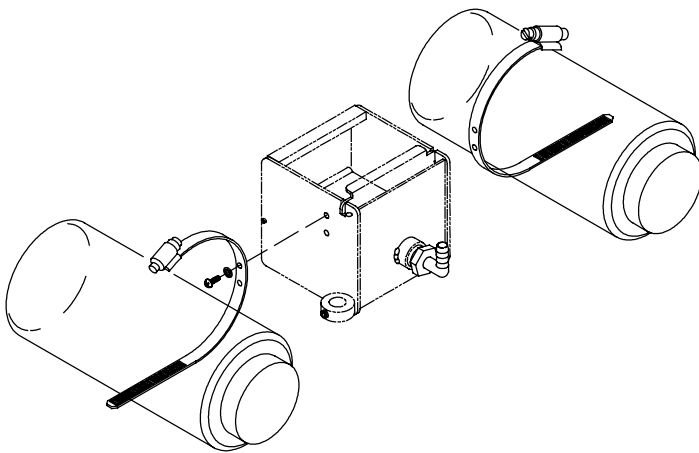

Figure 1
2. install the two Plastic Bottles, 32 oz. (part no. 3875) in the clamps and secure. (See Fig. 1)